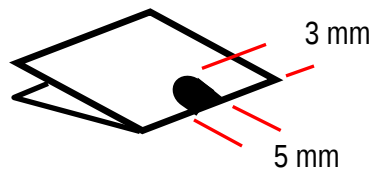

Figure 19f
22. Fold in half the longer length of each piece, and then cut a hole at the middle of the fold: 3 mm deep by 5 mm wide (see Figure 19f).